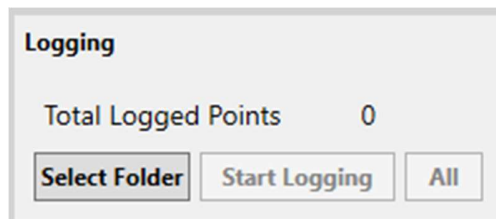

Figure 65 Data logging interface.
- In the “Logging” panel, click the “Select Folder“ button as shown in Figure 65. This will prompt a folder selection where the data will be generated.